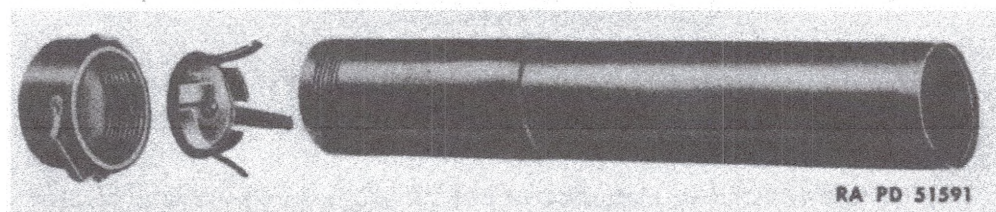

Figure 3 — Projector, Signal, Ground, M4 (Early Manufacture)
(3) GROUND SIGNAL PROJECTOR M4 (figs. 3 and 4). This projector is similar in appearance, operation, and use to the M3 Projector but of slightly different construction. It is issued and classified as "standard" materiel and will entirely supplant the M3 Projectors as soon as they become unserviceable. In the M4 Projector of early manufacture the cap has 2 separate brackets attached by screws. In the M4 Projector of present manufacture the ring on the outside of the cap forms 2 brackets.